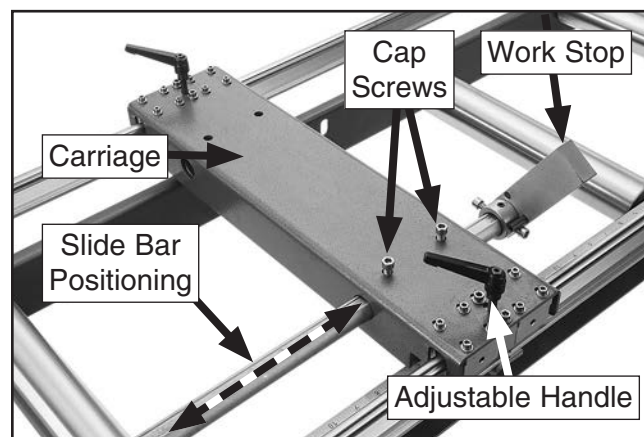

Figure 8. Carriage, work stop, and slide bar.
1. Lock carriage with adjustable handles, then loosen (2) cap screws securing slide bar/work stop to adjust slide bar/work stop position inside carriage mounting holes (see **Figure 8**).